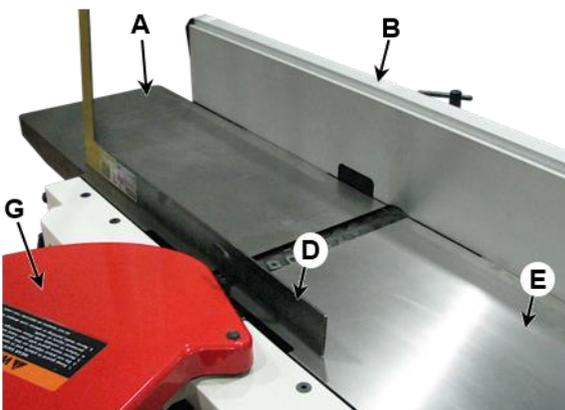

Figure 11
The straight edge should lie level across both tables. Move the straight edge to the front of the outfeed table as shown in Figure 11 and perform the same test.
2. Fully swing the *cutterhead guard* (G, Fig. 11) away from the *fence* (B, Fig. 11). It is recommended to then use a 6mm hex wrench (one is included with the machine) as a makeshift stop to hold the guard in place. To do this, insert the wrench into the front right roller tension adjustment screw. The cutterhead guard can then be released and the wrench will prevent it from swinging back towards the fence.
3. Turn all seven *gib lock screws* (F) into the *lock bar* (G) by turning in a clockwise direction as viewed from the *infeed table* (H).
4. Carefully remove the *cutter knife* (E) and *lock bar* (G).
6. Insert the replacement *knife* (E) into the knife slot, making sure it faces the proper direction.
7. Insert the *lock bar* (G) and tighten just enough to hold it in place.